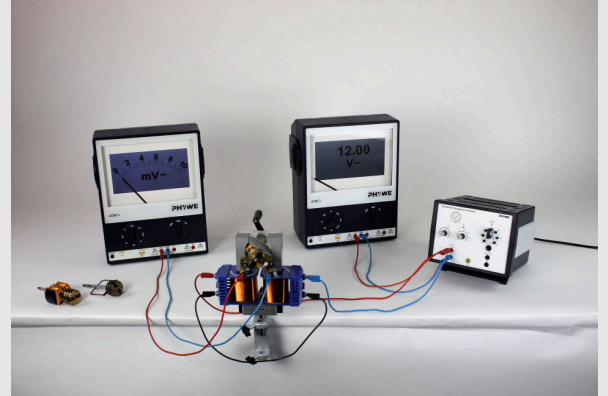

Fig. 4
- Set up the experiment according to Fig. 4.